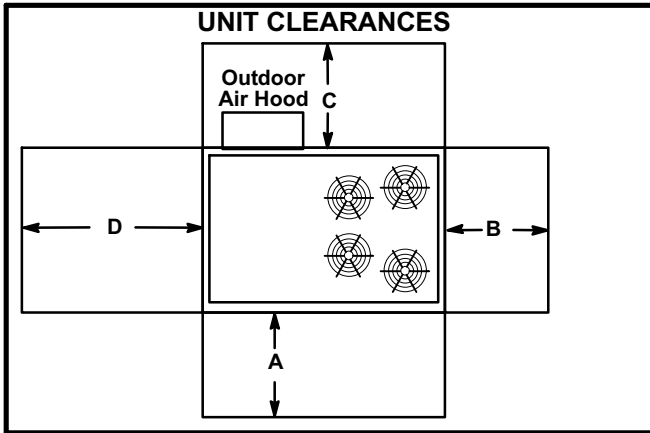

FIGURE 1
The KHA unit is ETL certified for outdoor installations only at the clearances to combustibles listed on unit nameplate and in figure 1.
The KHA unit is ETL/CSA certified as a heat pump with cooling and with or without auxiliary electric heat for non-residential use only at the clearances to combustible materials as listed on the unit nameplate and in figure 1.
- 2- Specified installation clearances must be maintained when installing KHA units. Refer to figure 1.